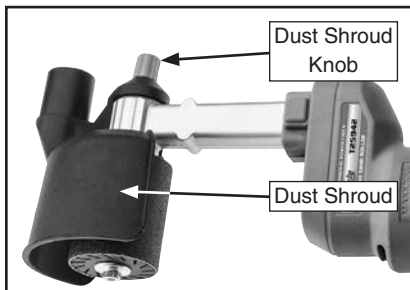

Figure 13. Location of dust shroud and dust shroud knob.
2. Remove dust shroud knob, then remove dust shroud (see **Figure 13**).